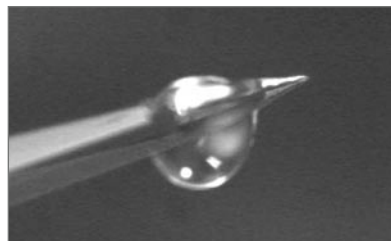

FIGURE 3
3. Allow a droplet to form at the emitter tip (Figure 3)